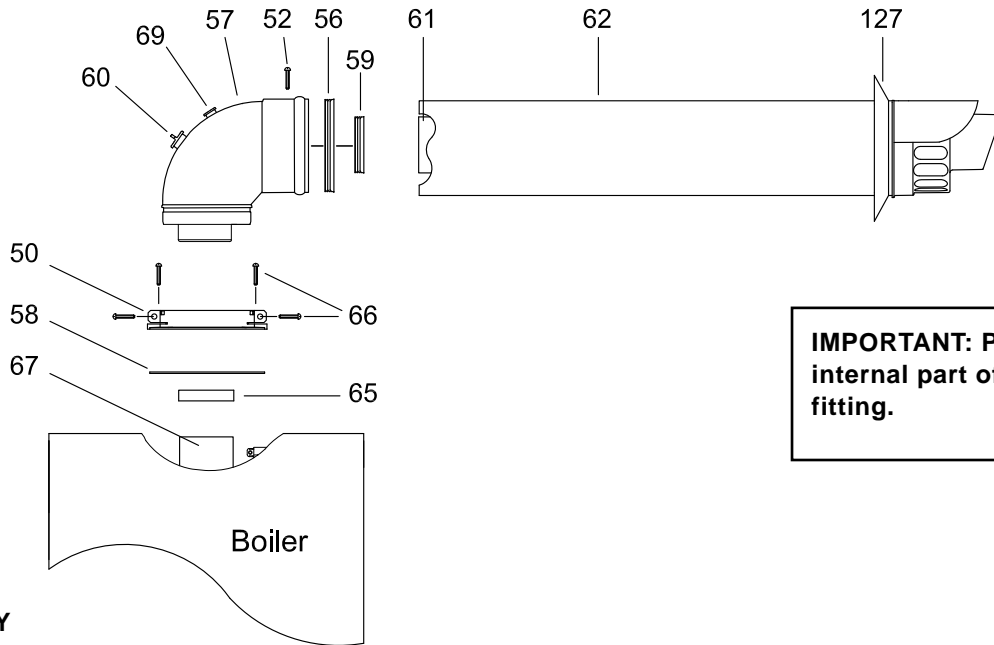

Fig.17
Important: Make sure that the inner 60 mm diameter of the elbow header is inserted fully into the heat exchanger, and the rubber seal is correctly fitted. (Fig 17 item 65)
Important: Make sure that the inner 60mm diameter of the elbow header is inserted fully into the heat exchanger, and the rubber seal is correctly fitted. (Fig 17 item 65)